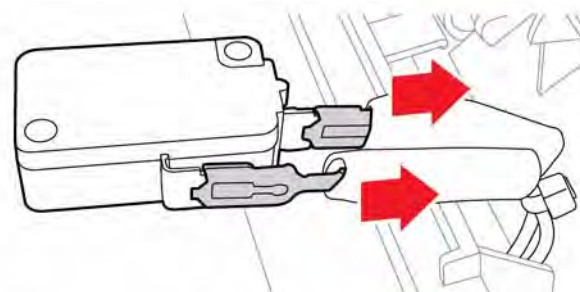

Figure 3 Remove the harness from the switch
5. Slide the insulation off the switch terminals and using a small screwdriver, release the harness connectors from the switch, Figure 3.